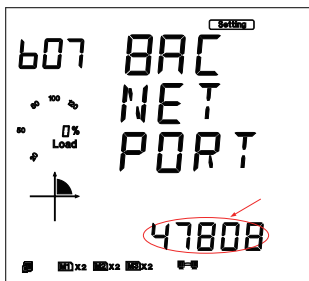

Fig 5-83
i). Set BACnet/IP port in the seventh setting page, such as 47808. Press the "V/A" key to go to the setting page. Users may set the parameters pointed out in Figure 5-83. The cursor starts at the first digit. The BACnet/IP port's default value is 47808, and the user defined range of port is 1~65535. After setting the BACnet/IP port, press the "V/A" key to accept. Press the "P" key to go to the eighth setting page for the BACnet RESET.